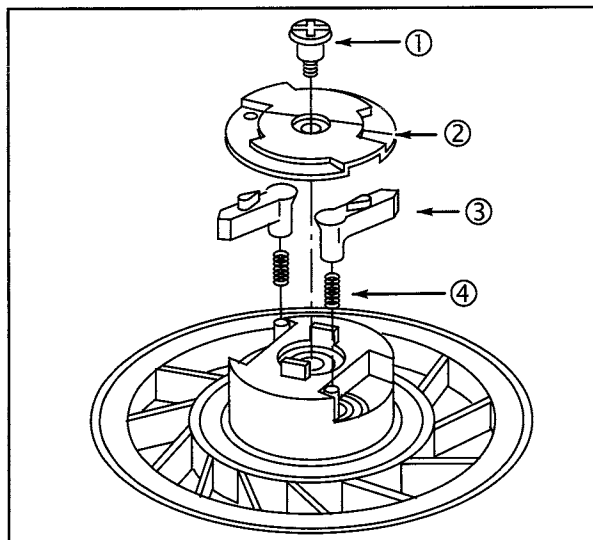

Fig. 56
2. Remove shoulder screw (1) and retainer (2), **Fig. 56**.
3. Lift out dogs (3) and dog springs (4).